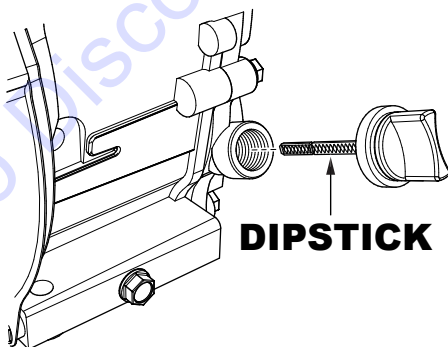

Figure 17. Engine Oil Dipstick Removal
2. Remove the engine oil dipstick (Figure 17) and wipe it clean.